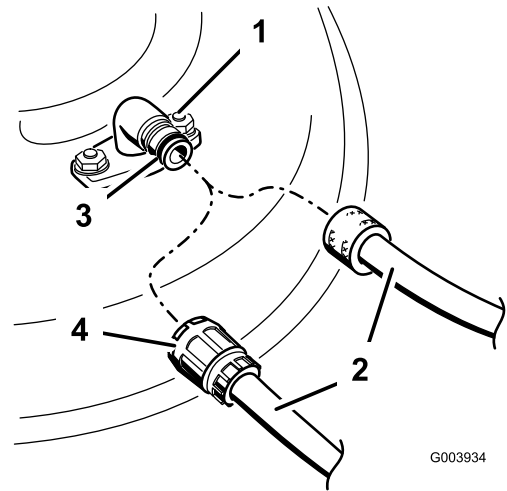

Figure 55
- Attach the hose coupling to the end of the mower washout fitting, and turn the water on high (Figure 55).